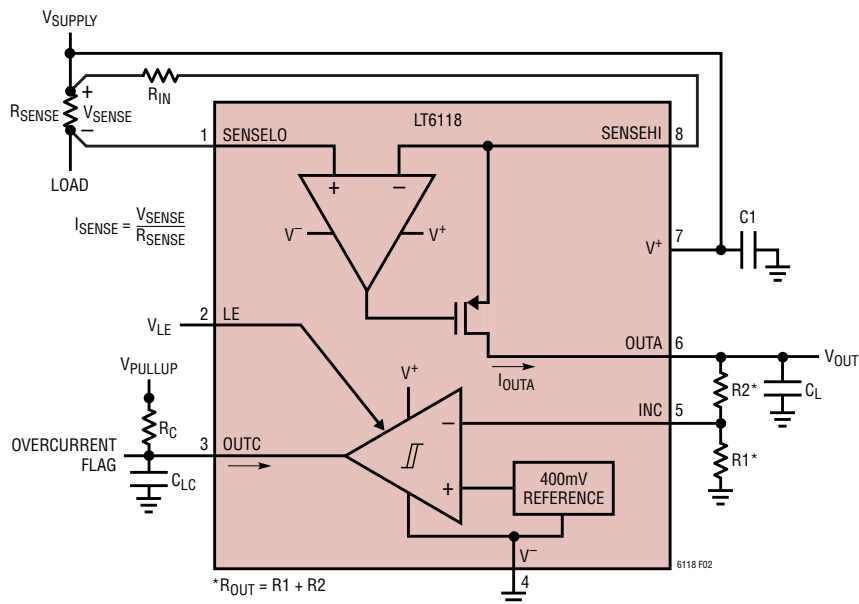

Figure 2. Typical Connection
**TYPICAL PERFORMANCE CHARACTERISTICS** Performance characteristics taken at  $T_A = 25^\circ\text{C}$ ,  $V^+ = 12\text{V}$ ,  $V_{\text{PULLUP}} = V^+$ ,  $V_{\text{LE}} = 2.7\text{V}$ ,  $R_{\text{IN}} = 100\Omega$ ,  $R_{\text{OUT}} = R_1 + R_2 = 10\text{k}$ , gain = 100,  $R_C = 25.5\text{k}$ ,  $C_L = C_{\text{LC}} = 2\text{pF}$ , unless otherwise noted. (See Figure 2)
Performance characteristics taken at  $T_A = 25^\circ\text{C}$ ,  $V^+ = 12\text{V}$ ,  $V_{\text{PULLUP}} = V^+$ ,  $V_{\text{LE}} = 2.7\text{V}$ ,  $R_{\text{IN}} = 100\Omega$ ,  $R_{\text{OUT}} = R_1 + R_2 = 10\text{k}$ , gain = 100,  $R_C = 25.5\text{k}$ ,  $C_L = C_{\text{LC}} = 2\text{pF}$ , unless otherwise noted. (See Figure 2)
An internal sense amplifier loop forces SENSEHI to have the same potential as SENSELO as shown in Figure 2.
where  $R_{OUT} = R_1 + R_2$  as shown in Figure 2.
Kelvin connection of the SENSEHI and SENSELO inputs to the sense resistor should be used in all but the lowest power applications. Solder connections and PC board interconnections that carry high currents can cause significant error in measurement due to their relatively large resistances. One 10mm  $\times$  10mm square trace of 1oz copper is approximately 0.5m $\Omega$ . A 1mV error can be caused by as little as 2A flowing through this small interconnect. This will cause a 1% error for a full-scale  $V_{SENSE}$  of 100mV. A 10A load current in the same interconnect will cause a 5% error for the same 100mV signal. By isolating the sense traces from the high current paths, this error can be reduced by orders of magnitude. A sense resistor with integrated Kelvin sense terminals will give the best results. Figure 2 illustrates the recommended method for connecting the SENSEHI and SENSELO pins to the sense resistor.